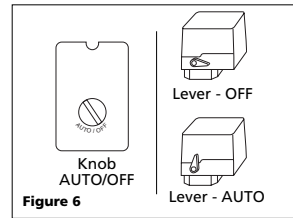

Figure 6
4. Turn pressure switch lever or knob to AUTO position and run unit for 30 minutes to break in the pump parts (See Figure 6).